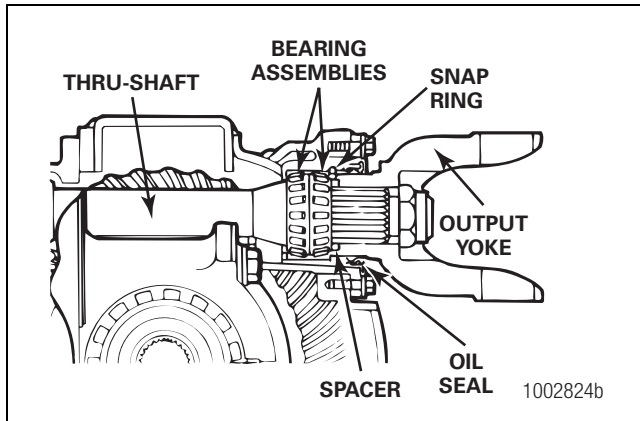

Figure 5.88
1. Apply axle lubricant to bearing cups and cones. Figure 5.88.